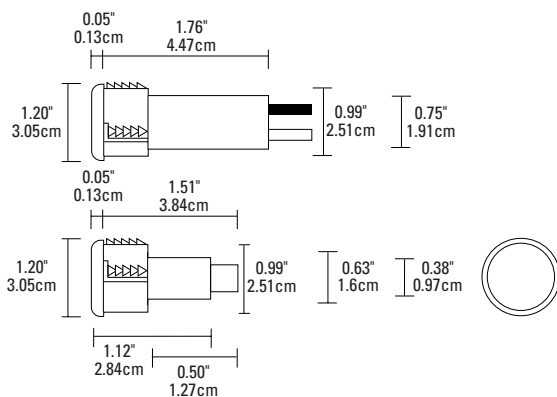

Figure 1
- The actuator must be aligned with the switch—labels facing the same direction. (See Figure 1.)